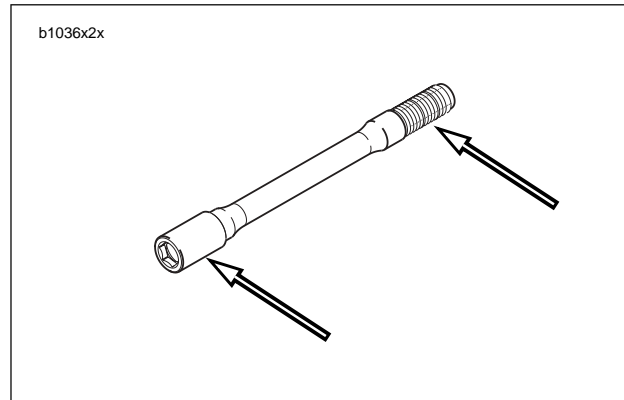

Figure 2-23. Anti-Seize Lubricant Location
- b. See Figure 2-23. Coat the axle with ANTI-SEIZE LUBRICANT.